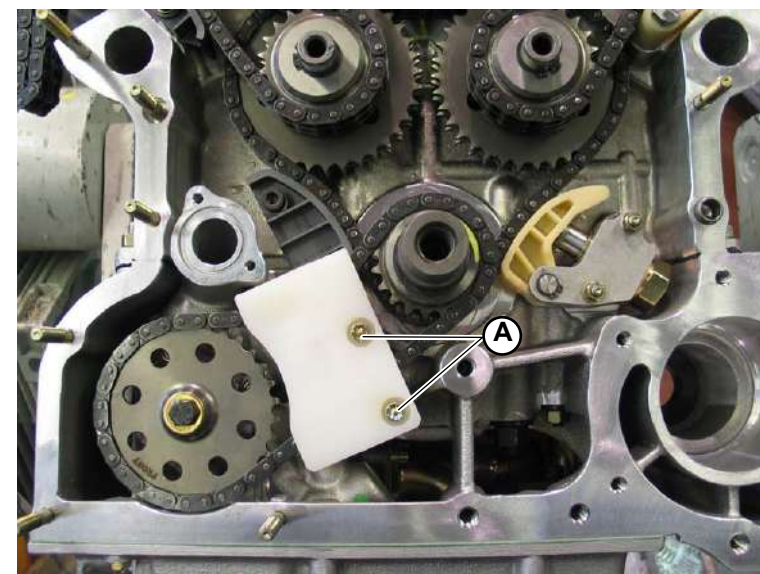

Fig.1
1. Unscrew the two bolts with washer (A-Fig.1) and remove the oil pump chain tightener.